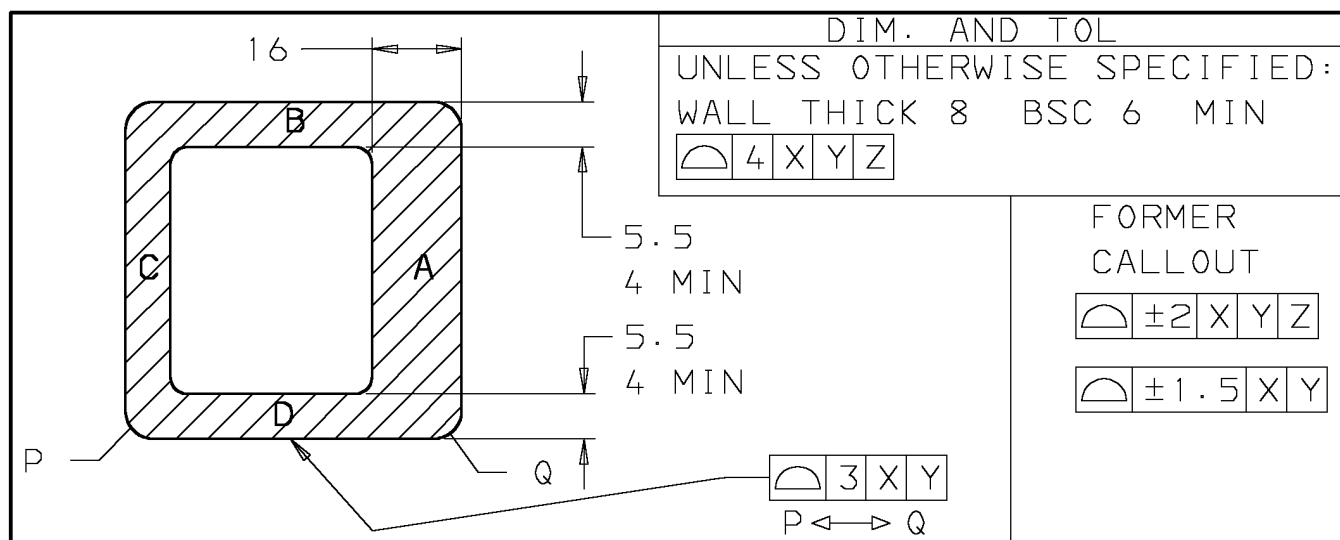

Figure 27 - Illustration - Wall Thickness
**12.2 Wall Thickness Tolerance (Castings)** - The general profile tolerance shown in the casting **DIM AND TOL** block applies to all casting surfaces unless otherwise specified. This includes the two cast surfaces that form a wall, rib, gusset, or web unless thickness is restricted in some other manner such as shown in Figure 27.